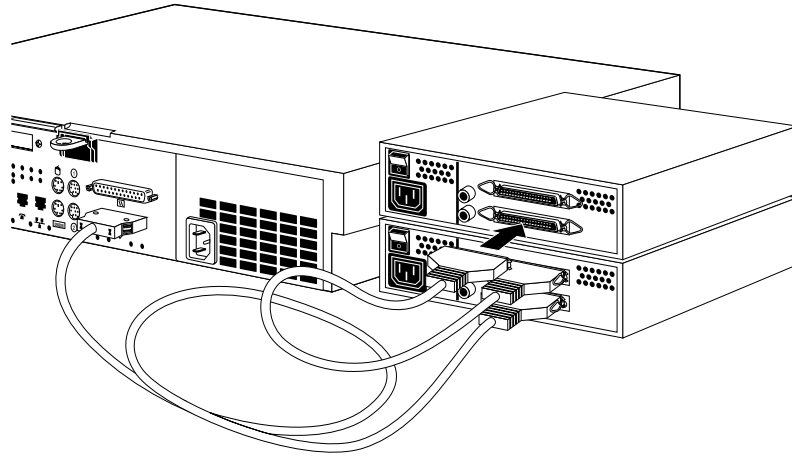

Figure 5-7 Daisy-Chaining an External SCSI Device to Another SCSI Device
- To daisy-chain the device to another external SCSI device, connect one end of the cable to the open connector on the first device, as shown in Figure 5-7. Connect the other end to one of the connectors on the device you are adding.